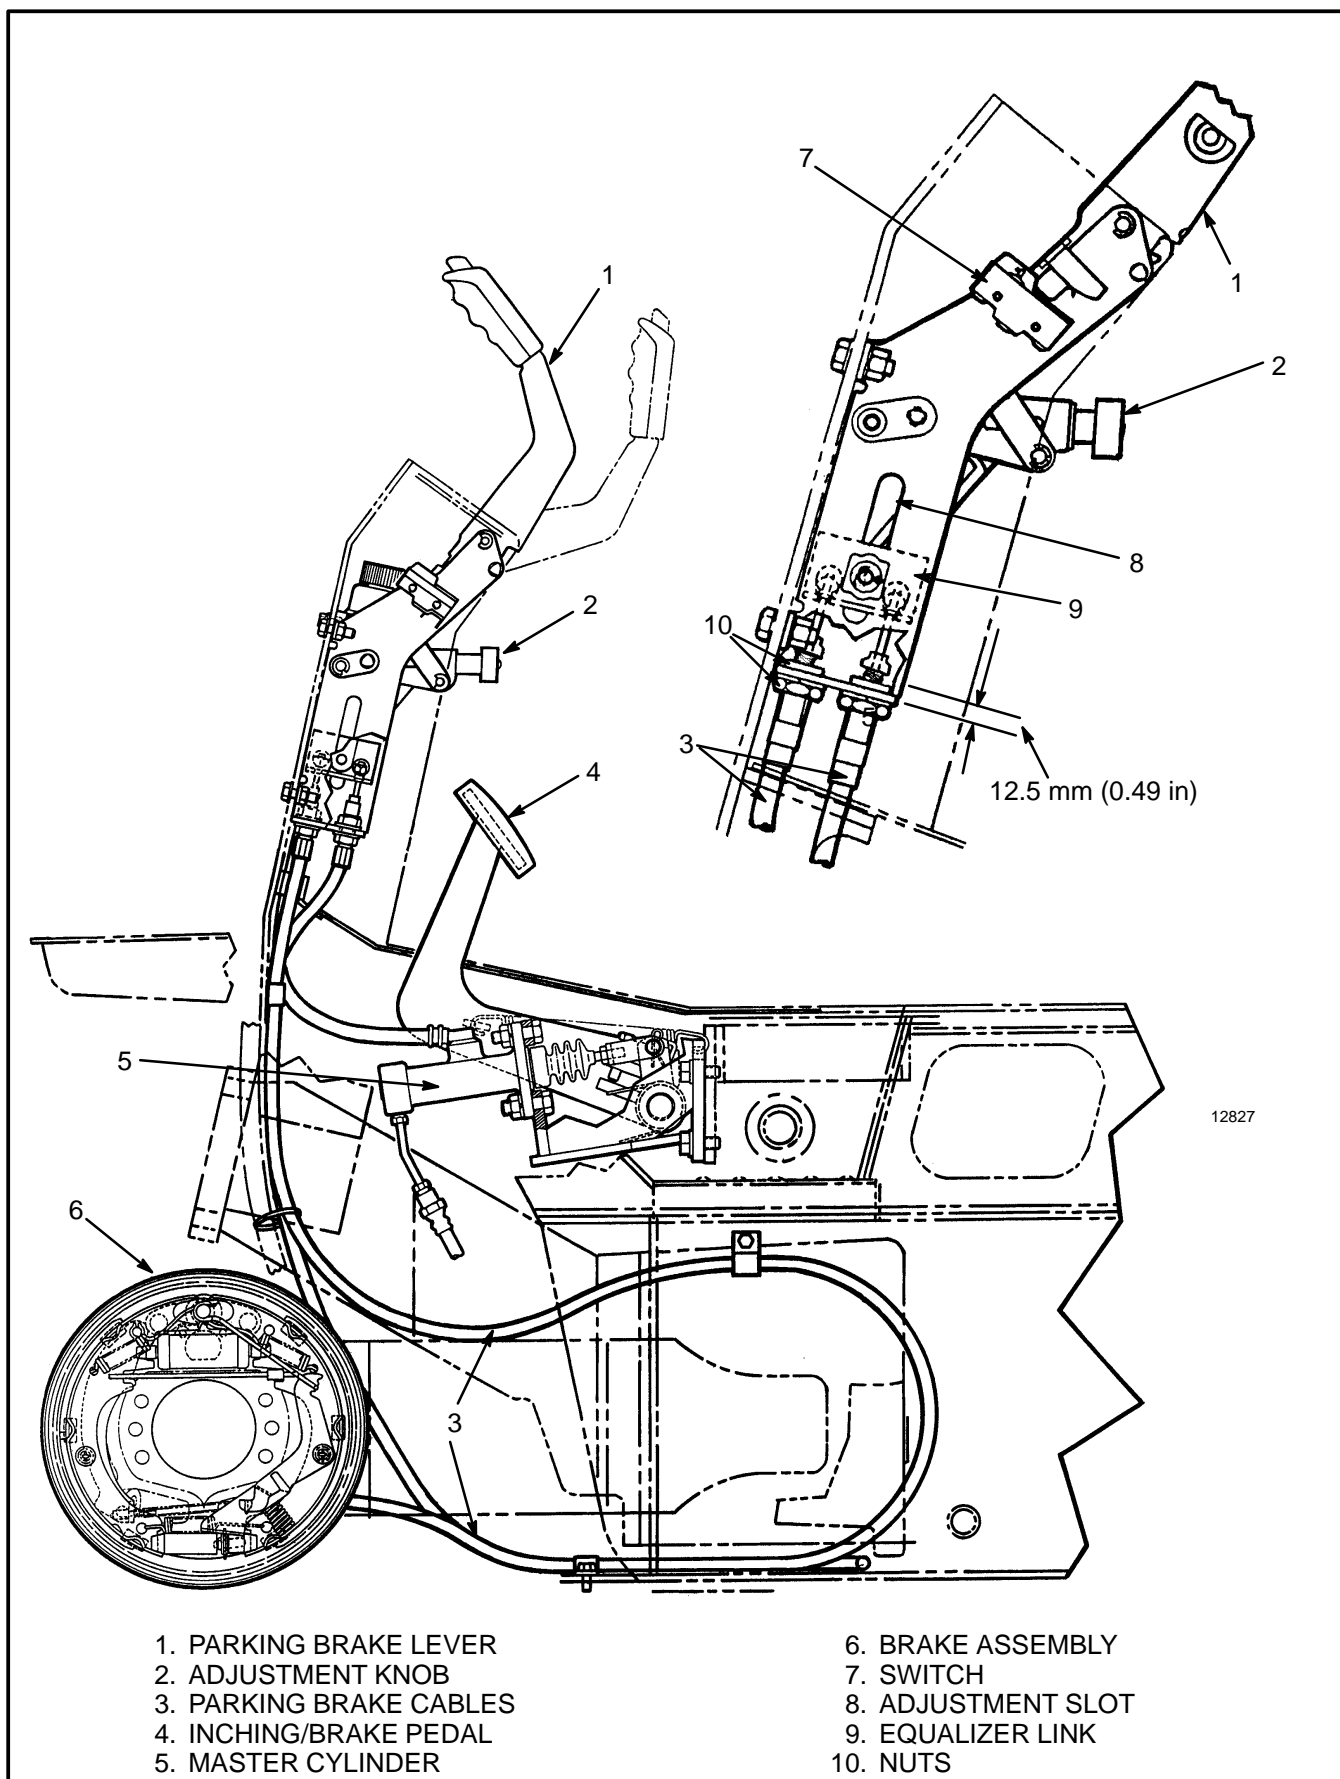

FIGURE 7. LEVER ADJUSTMENT OF PARKING BRAKE
4. The service brakes must be adjusted before the parking brake can be adjusted. See FIGURE 7. and the following paragraphs in this section for the correct adjustment of the parking brake.
Removal And Disassembly (See FIGURE 7.)
If the lever assembly for the parking brake must be removed from the cowl, use the following procedure (See FIGURE 7.)
Assembly And Installation (See FIGURE 7.)
Adjust The Parking Brake (See FIGURE 7.)